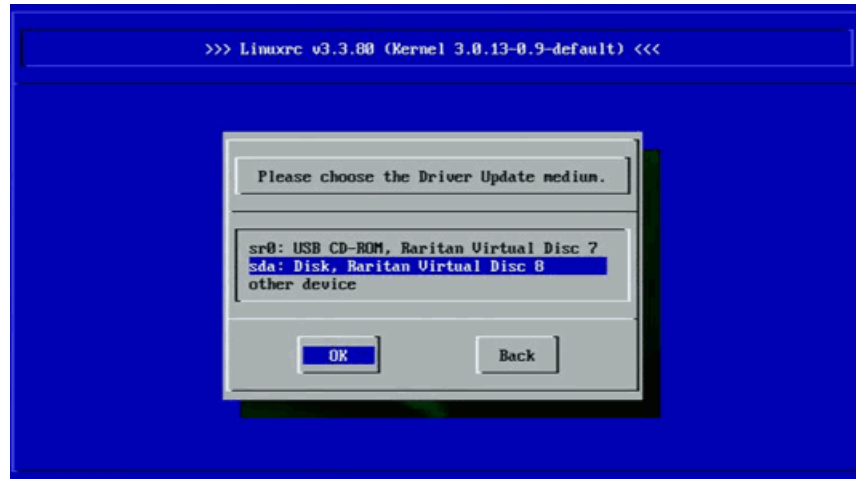
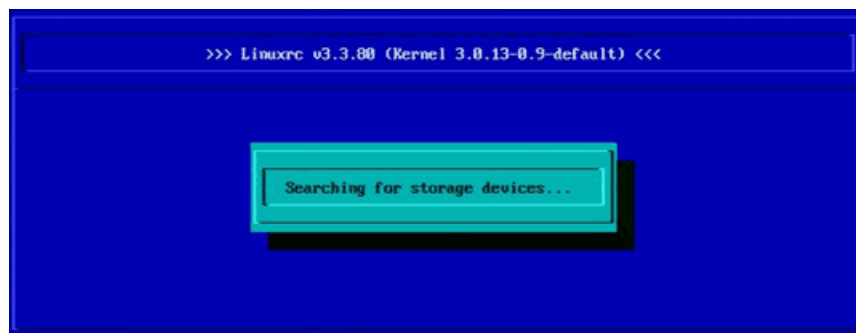

Figure 13-12. Selecting Driver Update Medium
Figure 13-13. Loading the Drivers
2. Follow the prompts to choose the driver update medium (Figure 13-12) and load the drivers (Figure 13-13).